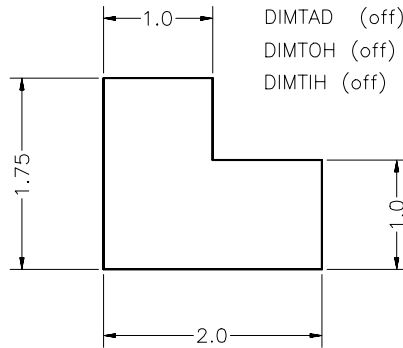
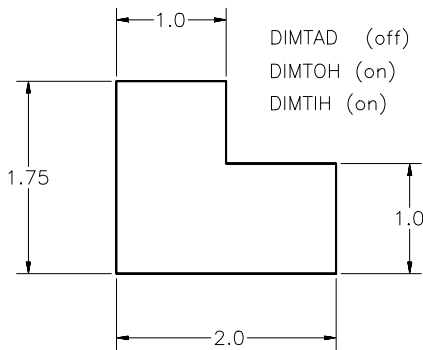
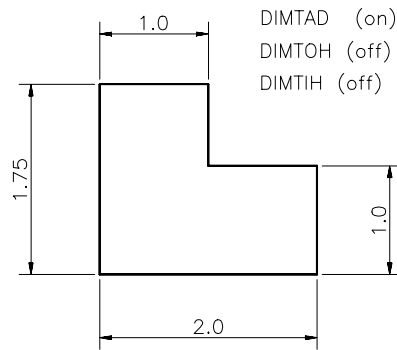

Figure 22-30 *Dimension text aligned with the dimension line*
Figure 22-31 *Dimension text horizontal*
Figure 22-32 *Dimension text above the dimension line*
7. If you decide to have the dimension text aligned with the dimension line, then the entire dimension text in the drawing must be aligned (Figure 22-30). Similarly, if you decide to have the dimension text horizontal or above the dimension line, then to maintain uniformity in the drawing, the entire dimension text must be horizontal (Figure 22-31) or above the dimension line (Figure 22-32).